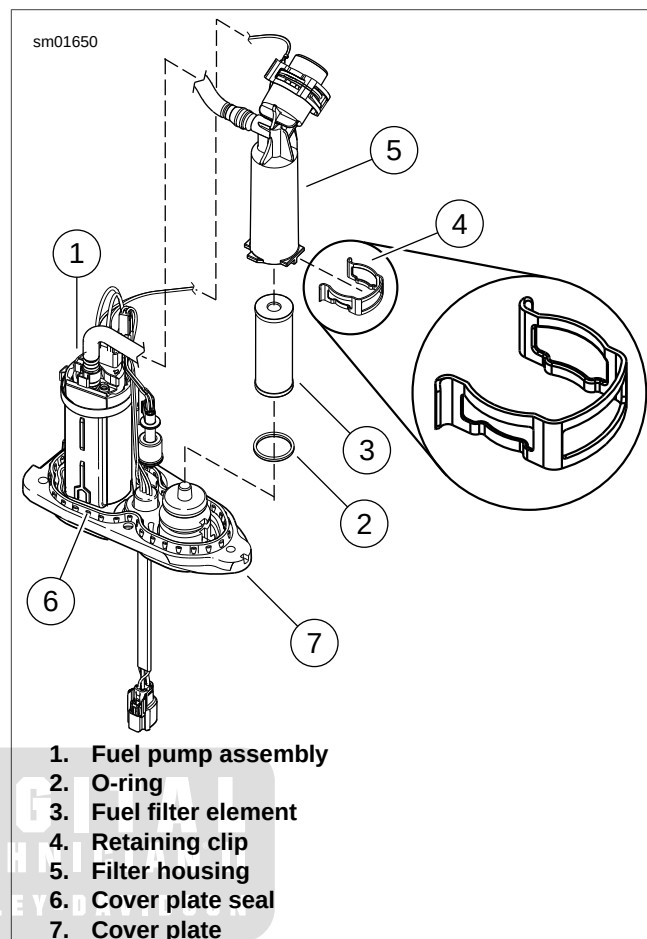

Figure 1-107. Replacing Fuel Filter Element
6. See Figure 1-107. Remove and discard cover plate seal (6).
7. Remove retaining clip (4) and lift filter housing (5) off fuel pump assembly (1).
8. Remove and discard filter element (3).
1. See Figure 1-107. Examine o-ring (2). Replace if cracked, torn or otherwise damaged.
2. Install **new** filter element (3) into filter housing (5).
3. Install filter housing onto base of fuel pump assembly (1). Secure with retaining clip (4), making sure that clip is oriented right side up, exactly as shown in the figure.
4. Install **new** cover plate seal (6) into groove in cover plate (7).